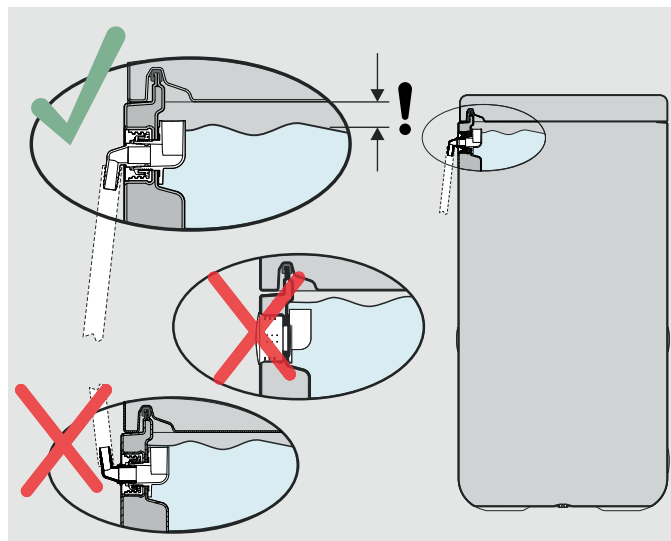

Fig. 4-6 Installation of drain hose at safety overflow
- Connect the drain hose to the connector for the safety overflow (Fig. 4-6 to Fig. 3-1, Item 23).